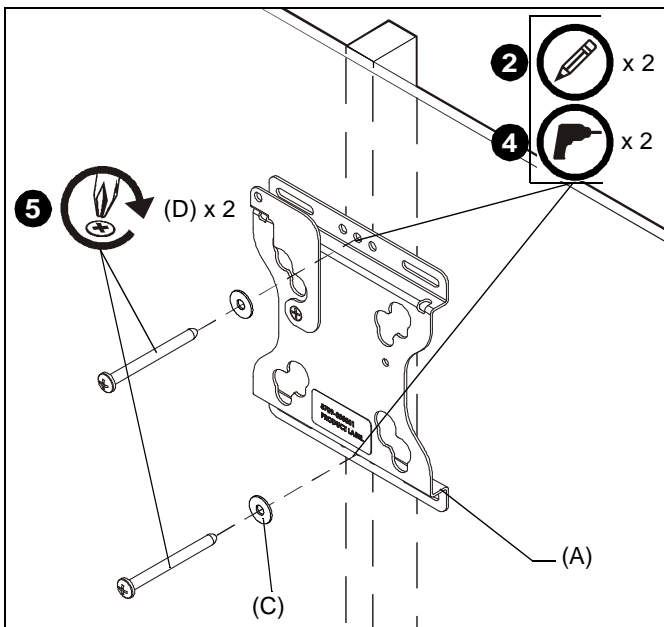

Figure 1
5. Fasten FSR to wood stud using two #10 x 2-1/2" Phillips head screws (D) through two #10 washers (C), FSR (A), and drywall (not shown) and install into pilot holes (See Figure 1).